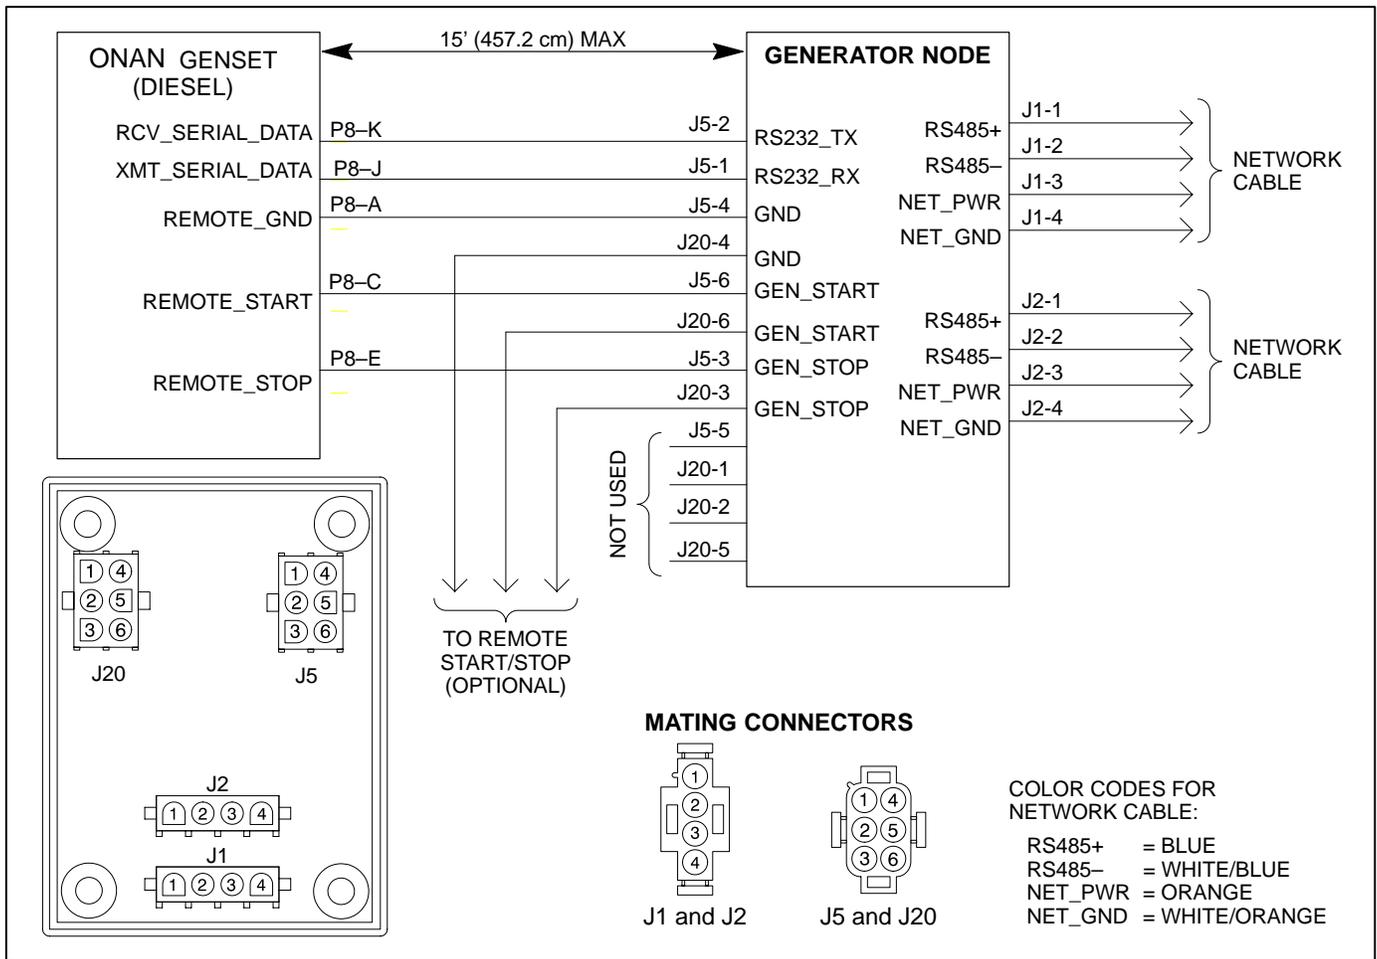

FIGURE 7-2. GENERATOR NODE WIRING DIAGRAM
- Refer to the wiring diagram (Figure 7-2) to route wires from genset to Genset node, and from the Genset node to next node on the network.